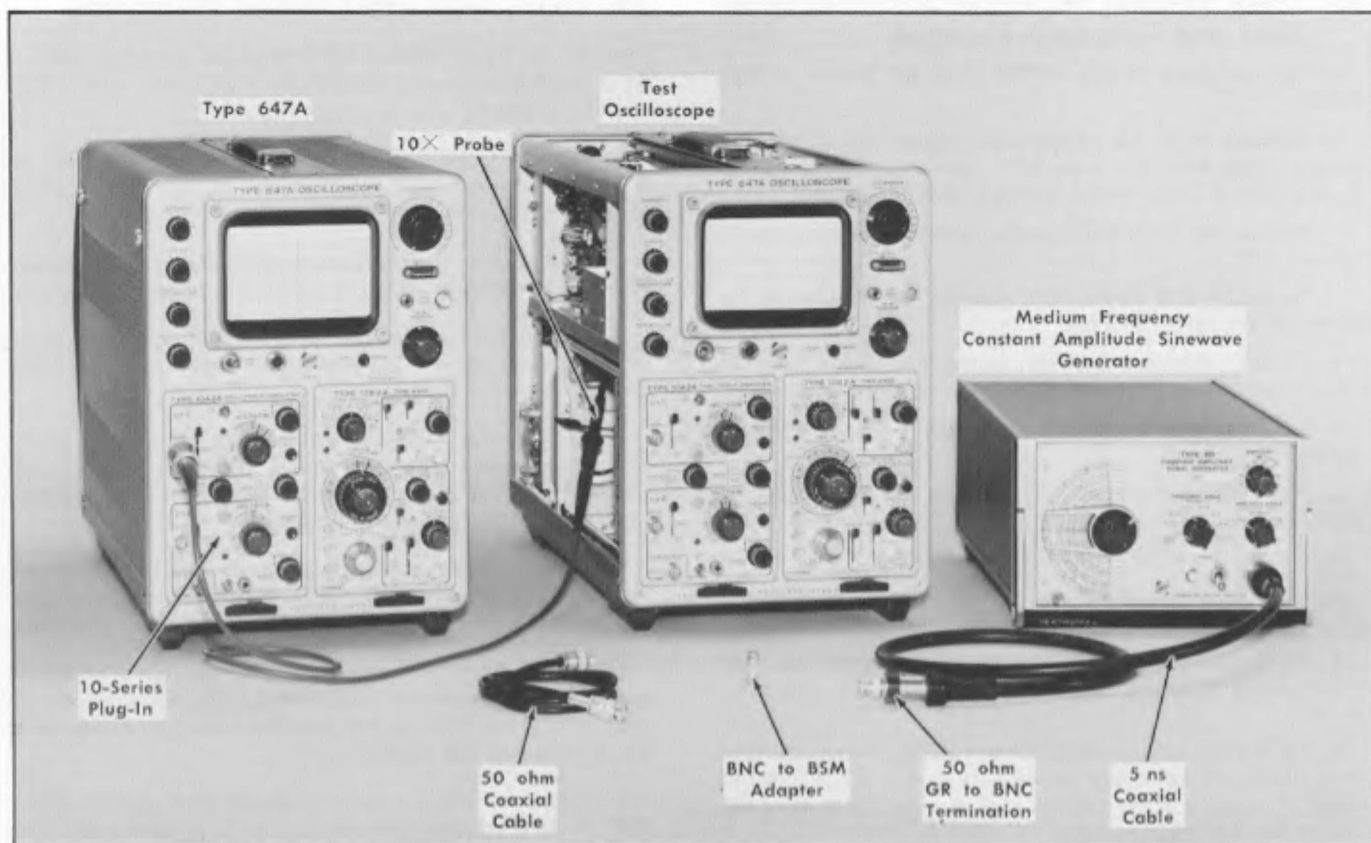

Fig. 6-8. Initial test equipment setup for steps 34 through 36.
- Test equipment is shown in Fig. 6-8.